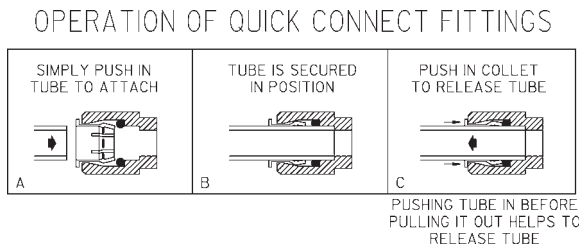

Figure 19 – Quick Connect Fittings
**Actuation of Quick Connect Water Fittings:** Cooler is provided with lead-free connectors which utilize an o-ring water seal. To remove tubing from the fitting, relieve water pressure, push in on the gray collar while pulling on the tubing. (See Figure 19) To insert tubing, push tube straight into fitting until it reaches a positive stop (approximately 3/4").